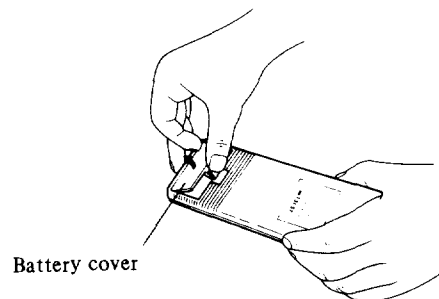

Fig. 6-6
- 1 Push the stop spring with your fingertip to remove the cell cover in the rear of remote controller, as shown in Fig. 6-6.